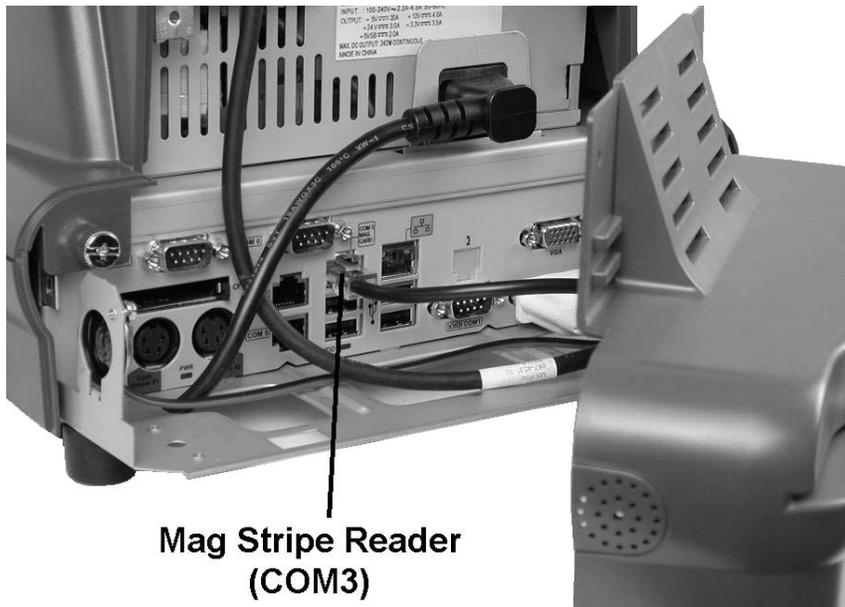

Figure 3-47: Connecting the Mag Card Reader
2. Attach the modular plug from the mag card reader to COM3, the modular connector shown in Figure 3-47. Be sure to push the modular plug into the connector until it snaps into place.